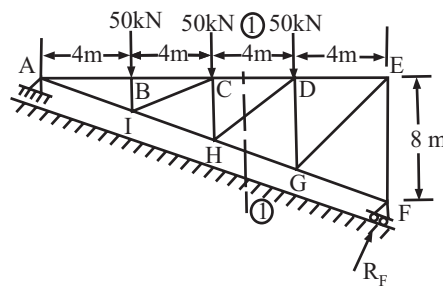

Fig 7
Q.7. In the truss shown in fig 7, compute the forces in the member CD, DH and HG.